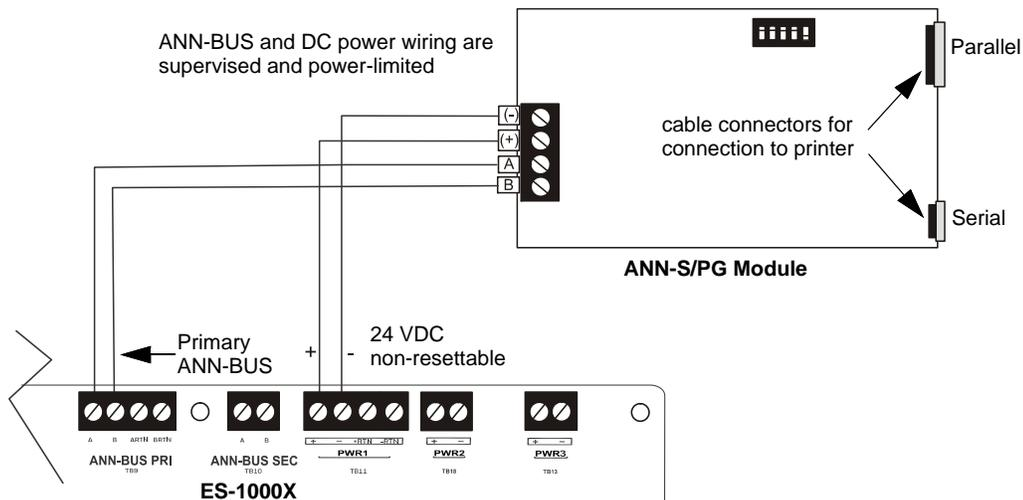

Figure 2.19 ANN-S/PG Connection to FACP
2. Connect the ANN-S/PG to the FACP as illustrated in Figure 2.19
5. Connect a printer to the ANN-S/PG Parallel or Serial connectors (refer to Figure 2.19). Only one printer can be connected.